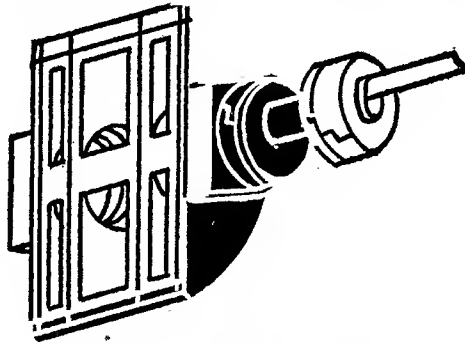

FIG. 78.—BAKER BALANCED VALVE.
**The Baker Balanced Valve.**—This valve with its duplicate port face is illustrated in Fig. 78. The valve as shown in the cut is almost entirely withdrawn from the port face. It is a plain piston valve of the direct type so arranged as to be easily attached to an engine in the field, the port face being designed to fit over the old port face without any careful planning. No description of the valve itself is necessary as the description of the plain piston valve will cover all the points about this valve. The cage for the valve, which constitutes the new valve seat, is the same casting as the duplicate port face. The valve and valve